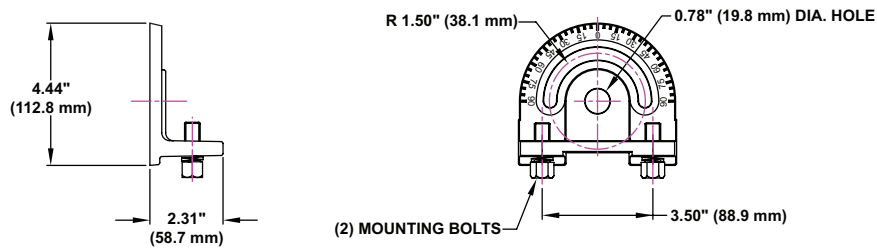

Figure 4: Crossarm Mounting Bracket (P/N: G-AM-8-CA)
1. Mount the luminaire with yoke to the crossarm mounting bracket with two 1/2 inch (12.7 mm) mounting bolts (supplied) and two 1/2 inch (12.7 mm) lockwashers (supplied). See Figures 4 & 5.
4. Mount the luminaire with yoke to the crossarm mounting bracket with two 1/2 inch (12.7 mm) bolts (supplied) and two 1/2 inch (12.7 mm) lockwashers (supplied). See Figures 4 & 5.